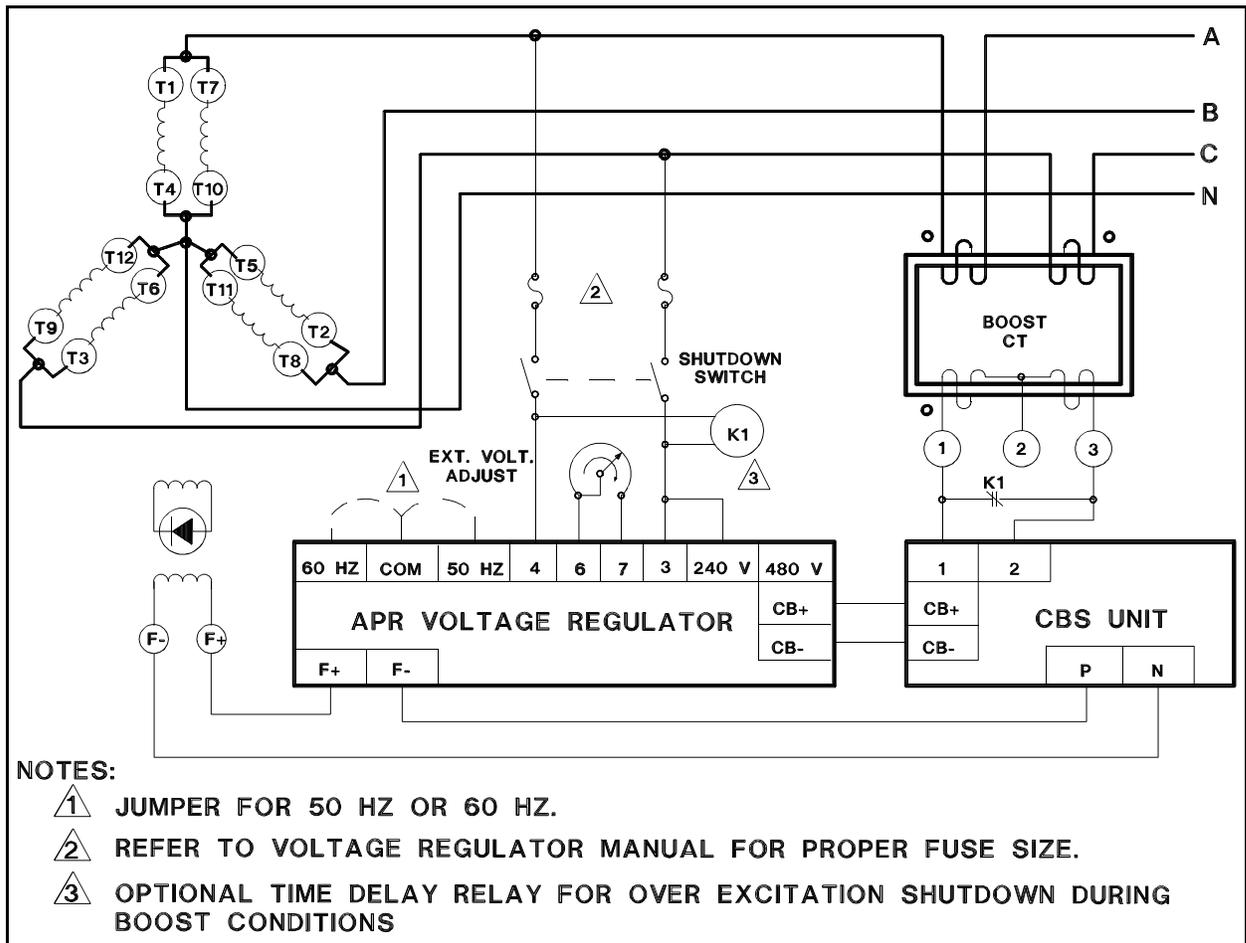

Figure 2-4. CBS 305 Interconnection With 208 to 240 Vac Generators
- a. Refer to Figures 2-4 through 2-8 for the interconnection diagrams and connect as shown therein.